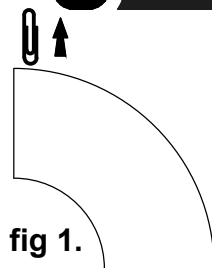

fig 1.
1. Follow Step 1 in the Installation and Operating Instructions for Recessed TriLED/QuadLED and MonoLED (F1S006). Once complete remove the Ceiling Tile Protector from the box and remove the retainer clip (See fig 1).